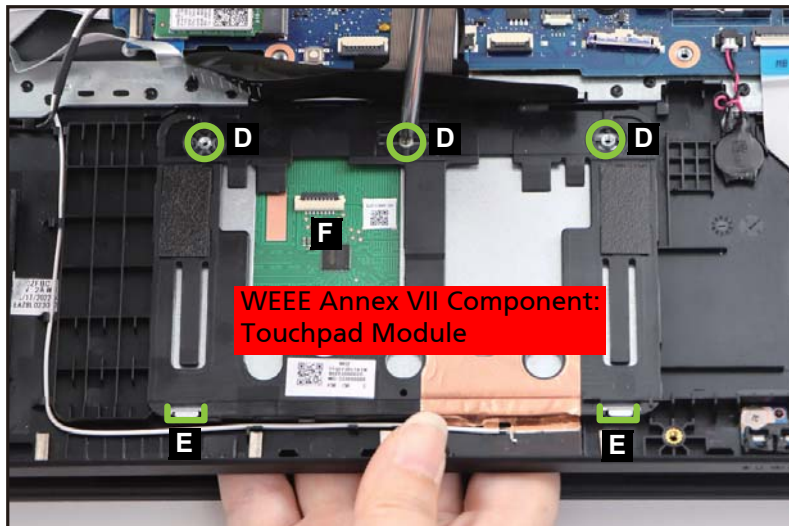

Figure 1-13. Touchpad Module Removal
5. Using the screwdriver, push the guide pins (D) firmly to release them from the top assembly (Figure 1-13).
6. Slide the touchpad module slightly to disengage it from the bottom latches (E), and then remove the touchpad module (F) from the top assembly (Figure 1-13).